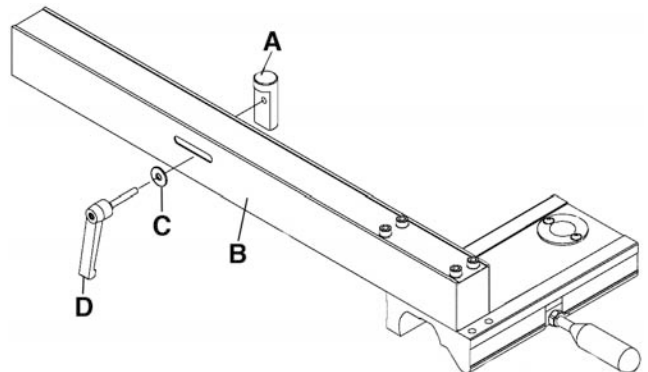

Figure 2
- 1) Attach the resaw guide post (A) Fig.2 to the fence (B) using washer (C) and lock handle (D).